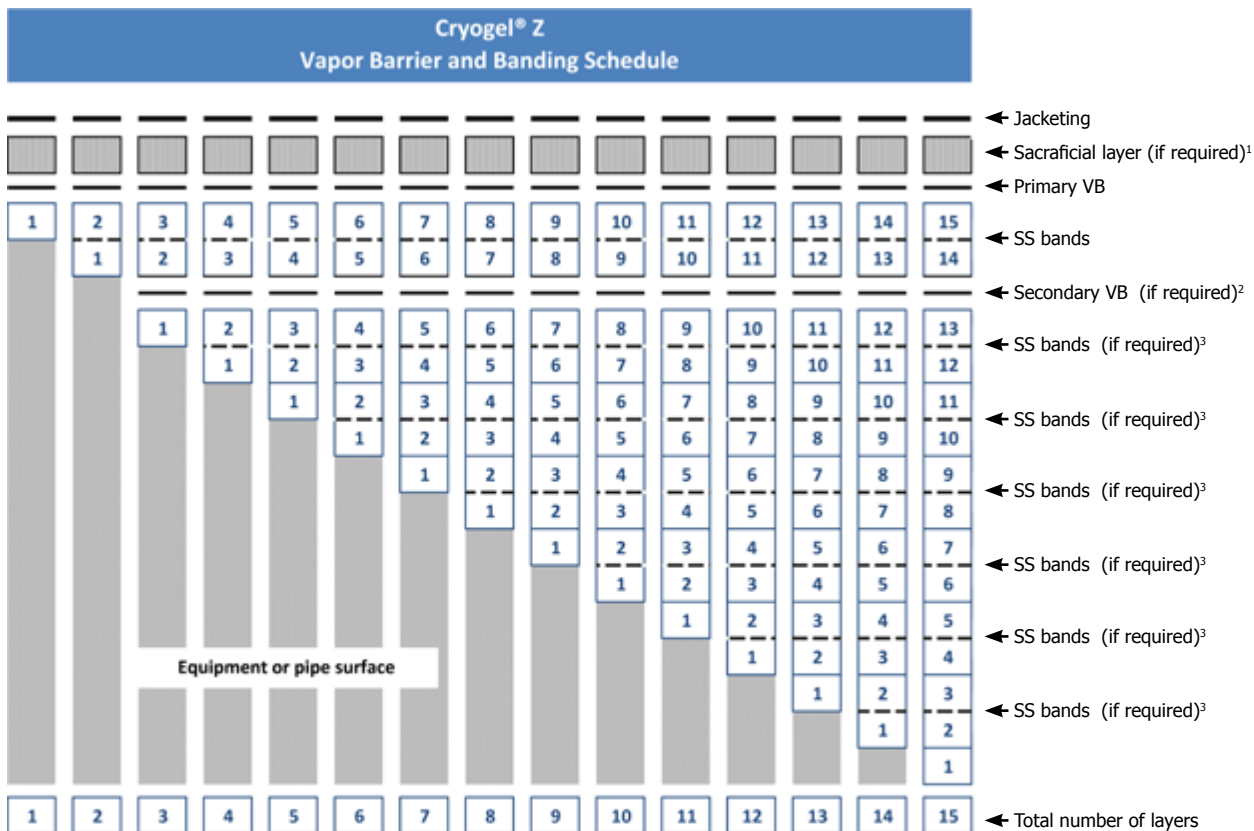

Figure 2: Vapor barrier and band locations for Cryogel Z installations of 1 to 15 layers.
- Where the insulation is to serve as passive fire protection, install additional intermediate banding over every second layer as shown in Figure 2. Space the bands 450 mm (18 in) apart.